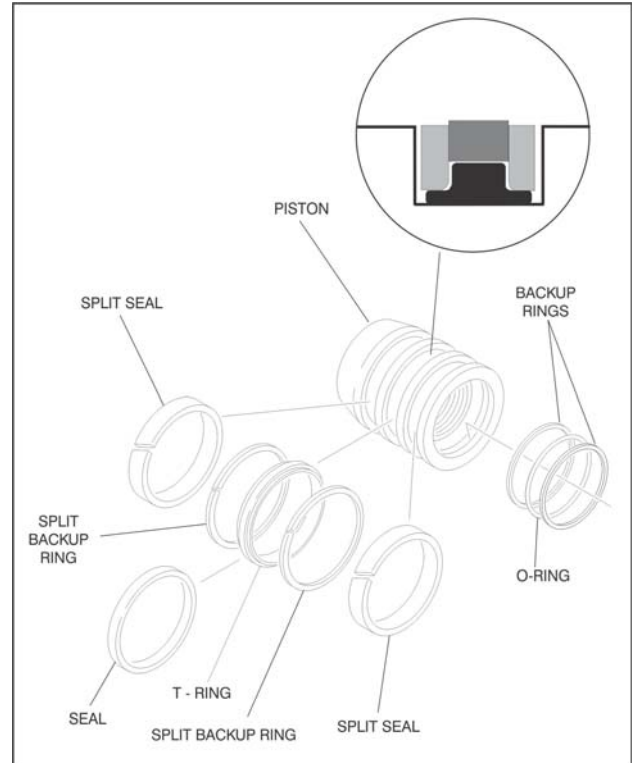

Figure 5-9. Piston Seal Kit Installation
NOTE: The backup rings for the solid seal have a radius on one side. This side faces the solid seal. (See magnified insert in Figure 5-9.) The split of seals and backup rings are to be positioned so as not to be in alignment with each other.
16. Place new guide locks and seals in the applicable outside diameter grooves of the cylinder piston. (See Figure 5-9., Piston Seal Kit Installation)